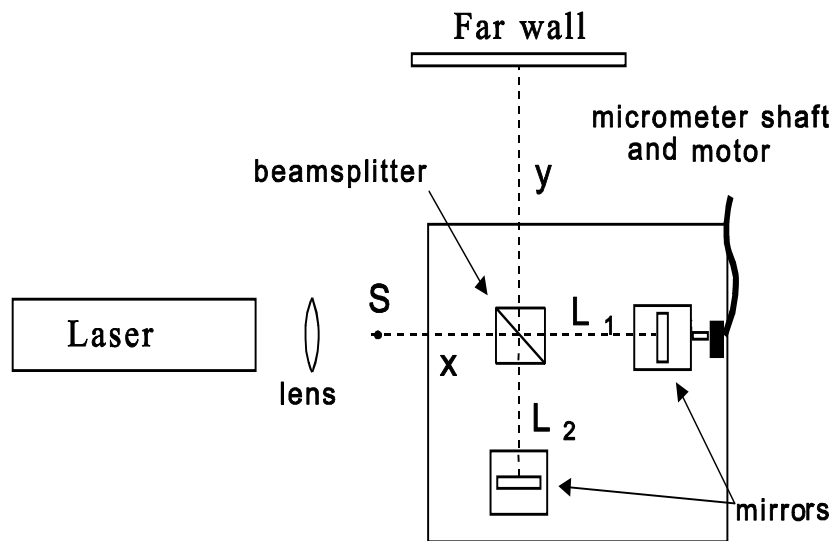
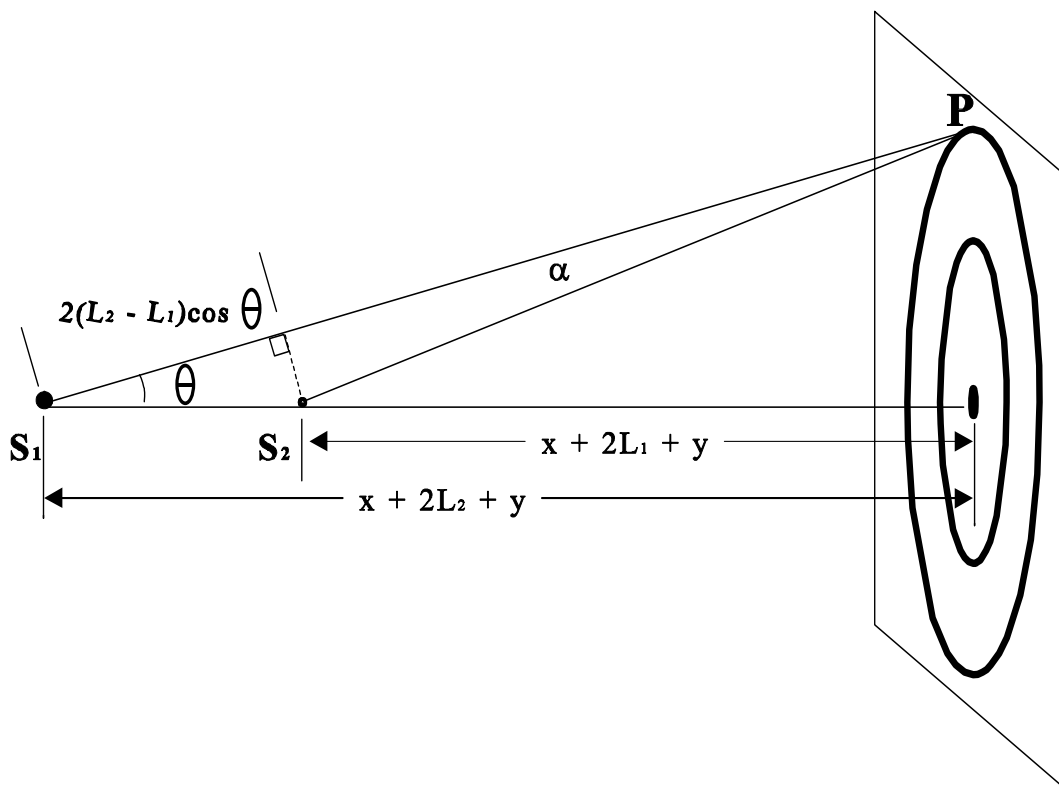

Figure 1: Michelson Interferometer
Figure 2: Two Source Representation
Look at the Michelson interferometer diagram in the reference, and compare to Figure 1 below. In texts, it is usually assumed that an observer looks into the interferometer, so that the eye receives light that originated at a relatively weak source. In this experiment a laser is used as the source, so the light leaving the interferometer is bright enough to be projected on a screen.
Suppose that in Figure 1, the lens between the laser and the interferometer is removed. The laser beam then follows the dotted path (length x) into the interferometer. When it hits the beamsplitter, half the light is reflected along path L_2 to a fixed mirror and the other half continues straight ahead, along path L_1 , to a movable mirror. The mirrors reflect the light back to the beamsplitter, where each returning ray is split again. Half of the light returning from each mirror leaves the interferometer along the dotted path (length y) and travels to a screen mounted on the far wall. Since there are two light beams arriving at this point on the screen, the spot is bright or dark depending on whether they are in or out of phase. One beam travels a distance $x + 2L_1 + y$ from point S to the wall, while the second travels $x + 2L_2 + y$. The difference in these path lengths is therefore $2(L_2 - L_1)$, and the spot on the screen is bright only when this is an integer times the laser wavelength, i.e. when $(L_2 - L_1) = n(\lambda/2)$.
When the lens is in front of the laser, as shown in Figure 1, it focuses the laser beam to point S , which acts as a point source sending light into the interferometer. Light waves emerging from a point source are spherical, i.e. the light rays coming out of S diverge from one another. This means that the light passing through the interferometer illuminates the entire screen, not just the "central" point where dotted path y hits. To find out if a particular point P on the screen is bright or dark, we need to consider the difference in path lengths from S to P for light traveling along the two arms of the interferometer. The resulting pattern on the screen turns out to be a series of concentric circular bright and dark bands called "fringes", as illustrated in Figure 2 below.
To understand why the pattern is circular, remember that the lens focuses the parallel rays from the laser to the point, **S**, which can be considered as the actual "source" of light entering the interferometer. As described above, light from **S** gets to the screen by either of two routes through the interferometer and, for the center of the pattern, the lengths of these routes are $x + 2L_1 + y$ and $x + 2L_2 + y$, respectively. Therefore, what happens on the screen is the same as what *would* happen if there were *two* point sources located at these distances in front of the screen on a common axis, as shown in Figure 2, provided that wave crests leave each of the sources simultaneously. (Notice that if you "unfold" the paths in Figure 1 you get Figure 2.) Since $L_1 \gg (L_2 - L_1)$, the rays from **S**₁ and **S**₂ to **P** are nearly parallel. For a particular angle θ , the light from **S**₂ travels a distance α while the light from **S**₁ travels $\alpha + 2(L_2 - L_1)\cos\theta$. If the difference between these two path lengths is an integral number of wavelengths, constructive interference occurs and you have brightness at **P**. Since the same angle θ exists for all points **P** on a circle concentric with the center of the pattern, you see a bright circular ring. Finally, if you increase or decrease θ so that $2(L_2 - L_1)\cos\theta$ changes by $\lambda/2$, you get a dark ring. The pattern is thus a series of concentric bright and dark fringes.
Place the steel slab on top of the inner tube and, with the levers on the magnetic bases in their "off" positions, arrange the optical components on the slab as shown in Figure 1. Place the laser opposite the movable mirror and adjust the components until the axes of the laser and mirrors are perpendicular to the beamsplitter faces. Lock the magnetic bases to the steel slab. (*Hint: It helps if L_1 and L_2 are nearly, but not quite, identical. Also, you may want to position the mirror with the motor in a location where you may read the micrometer scale easily.*) With the laser on, you should see a pattern of bright dots on the wall opposite the bench. Observe the behavior of these dots when the mirror tilt adjustments are varied, returning the screws to the middle of their travel range. **QUESTION 1:** *Why are there more than two dots? To determine why, observe what happens when an index card or piece of paper is inserted between the beamsplitter and either of the mirrors. Next, try blocking both mirrors.*
QUESTION 3. Suppose that in Figures 1 and 2, $x = y = L_1 = 5.00$ cm and $L_2 = 5.15$ cm, and the wavelength of the light incident on the system is 600 nm. Assume all of these values are exact (quantities are valid to at least 8 significant digits).
- Referring to Figure 2, how many wavelengths of light will fit between points S_1 and S_2 (along line segment S_1S_2)? Record your answer to the nearest half a wavelength.
- Now assume point P in Figure 2 lies on the first ring of minimum intensity from the center of the pattern. How does the length of the small right triangle side labeled $2(L_2 - L_1)\cos\theta$ differ from the length of the side of the right triangle defined by line segment S_1S_2 ? *Hint: you don't know θ – this involves a little thought about constructive and destructive interference!*